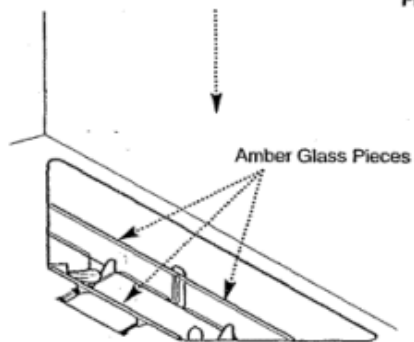

Fig. 80
3. Carefully remove the three amber glass pieces (Fig. 80).